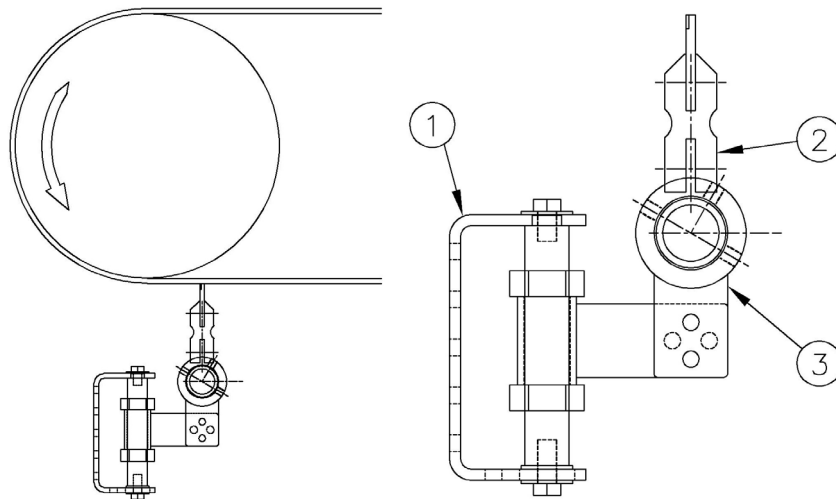

FIG 2
Locate approximate mounting location and ensure blade will contact the belt approximately 3"-4" from the point where the belt leaves the pulley (figure 2). Measure the cleaner on-site or refer to assembly drawing and prepare cutouts on both sides of chute. The size of these cutouts may be limited due to construction of conveyor frame and/or chute. It is preferred that the opening be large enough to slide the blade-frame assembly (item 2) through the cut out and still allow for adjustment during final setup.. If additional mounting brackets are required they are to be designed and fabricated by the installer based on application requirements. The bracket location should be marked on both sides of conveyor structure (chute, ect). The bracket (item 1) **MUST** be parallel to the conveyor belt line. Tack weld or loosely bolt bracket in place use minimum 1/2" size bolts.